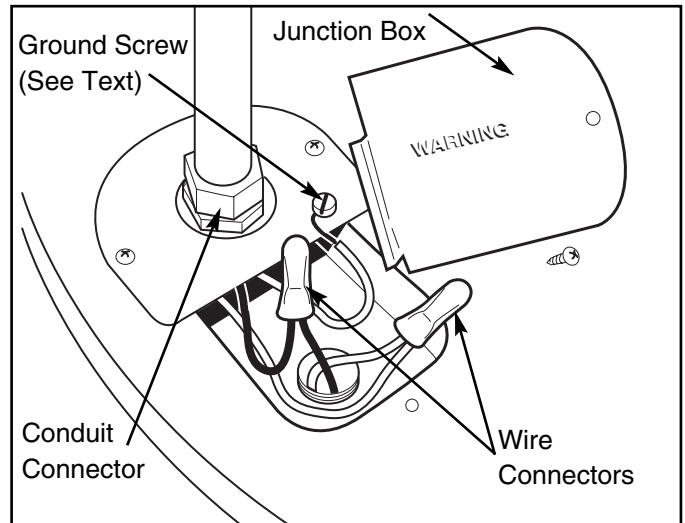

Figure 3.— Water Heater Junction Box.
The water heater is completely wired to the junction box inside jacket at top front of water heater. An opening for 1/2" or 3/4" electrical fitting is provided for field wiring connections. (Refer to Fig. 3)
- B. Non-metallic sheathed cable or metallic conduit or metallic sheathed cable not approved for use as a ground conductor shall include a separate conductor for grounding. It should be attached to the ground terminals of the water heater and the electrical distribution box. (Refer to Fig. 3)